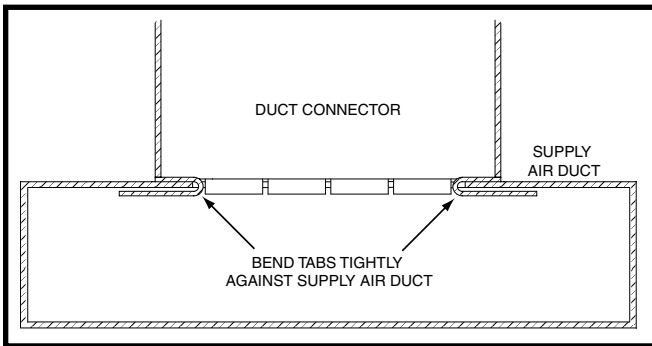

Figure 10. Duct Connector Tabs
8. Bend both tabs up 90° on the mounting plate. See Figure 10 (page 9).